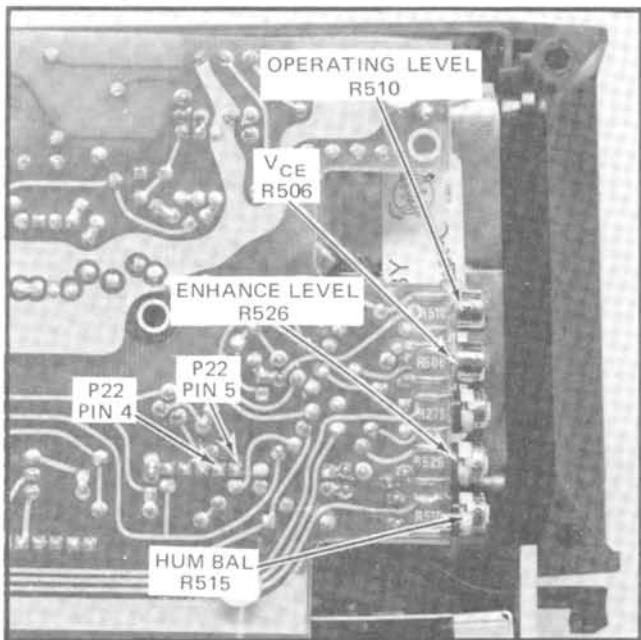

Fig. 4-4. Location of storage operation adjustments.
- PRESET—Operating Level adjustment, R510 (see Fig. 4-4) fully counterclockwise.
- Connect the DC Voltmeter between pin 4 of plug 22 and ground (negative meter lead to ground) on the Power Supply (A-3) board. See Fig. 4-4.
a. Connect the DC Voltmeter between pin 5 of plug 22 and ground (positive meter lead to ground) on the Power Supply (A-3) board. See Fig. 4-4.
b. Rotate V_{CE} adjustment, R506 (see Fig. 4-4), from fully clockwise to fully counterclockwise.
- g. ADJUST—Enhance Level adjustment, R526 (see Fig. 4-4) for the best possible display.